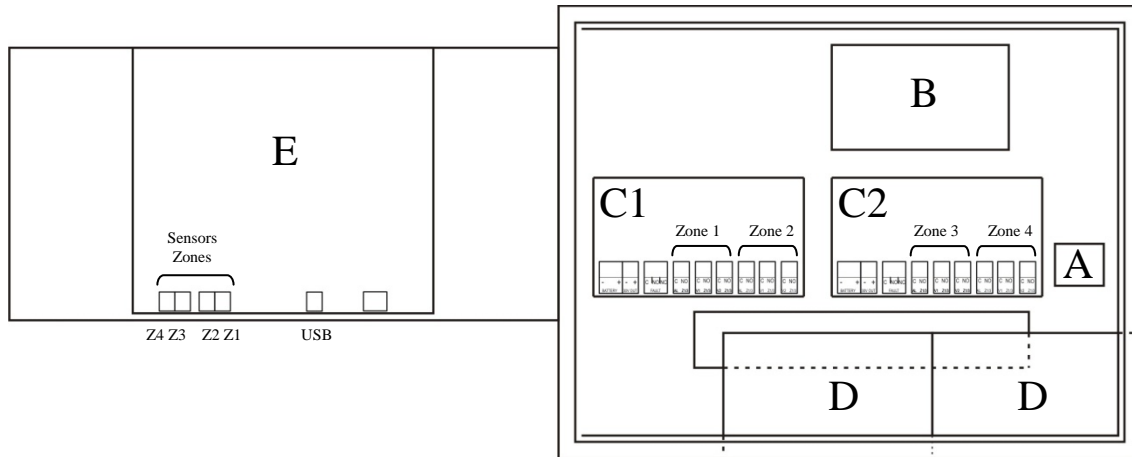
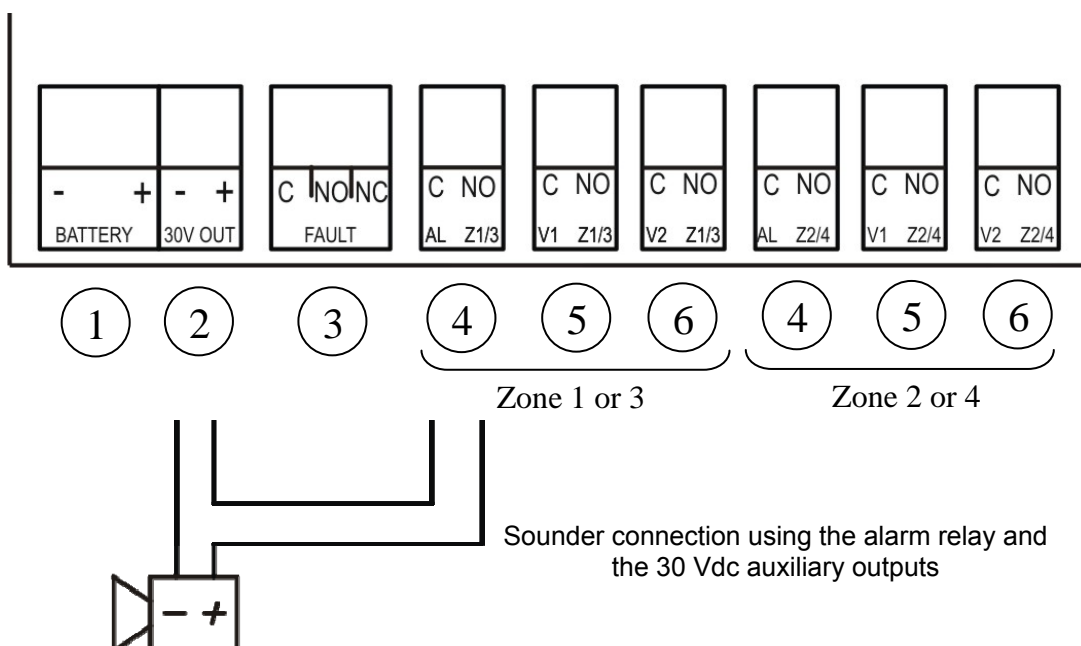

Figure 5: Internal lay-out
Figure 7: Output card layout
Circuit with the battery connection, ventilation, alarms, etc, for 1 or 2 Zones. In control panels of 2 zones, it is located in the bottom of the box on the left central region (C1 in Figure 5). In control panels of 3 or 4 zones, it has a second output card on the right central area (C2 in Figure 5). Output card left C1 is connected to the switching power supply. Additionally, if the control panel has 2 output cards (C1 and C2), these are also connected to each other.
The electrical power supply of the control panel is done by Figure 5 terminal A with a voltage of 110 ~ 230V ± 10% 50 - 60 Hz. The connection must be made by 3 wires with a minimum diameter of 1.5 mm, being mandatory the connection of the ground wire to the supply terminal A. The wire line passes through a fuse. The maximum power consumption for a control panel is 70 W. The connection will be made according to the label on the bottom of the chest.
For DVB models, this terminal is connected with the batteries. It is only active on the card C1 (See Figure 5).
30 Vdc auxiliary output with a maximum capacity of 1 A. It allows feeding other devices as sounders (see Figure 7). This output is protected by a self-resetting fuse and performs supervision of tension, consumption and cross line. It is only active on the card C1 (See Figure 5).
Fault dry contact output not supervised with capacity of 1 A (30 Vdc - 230 Vac). It is only active on the card C1 (See Figure 5). It will be triggered when a fault occurs in the system or there is not power in the system (the common contact-Normally Open (NO) relay is shorted indicating fault). Only disabled when there is no fault in the system and the control panel is electrically fed (Common-contact Normally Open (NO) relay is electrically open).
Dry contact output with common contact (C) Normally open (NO), and capacity of 1 A (30 Vdc - 230 Vac). Corresponds to the alarm output in zone 1, 2, 3 or 4 depending on the position on the card, and the card in the box (see Figure 5).
Dry contact output with common contact (C) Normally open (NO), and capacity of 1 A (30 Vdc - 230 Vac). It corresponds to the ventilation zone 1, 2, 3 or 4 depending on the position on the card, and the card in the box (see Figure 5).
Dry contact output with common contact (C) Normally open (NO), and capacity of 1 A (30 Vdc - 230 Vac). Corresponds to the ventilation 2 of zone 1, 2, 3 or 4 depending on the position on the card, and the card in the box (see Figure 5).